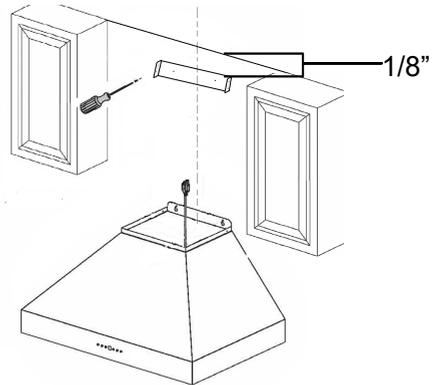

Figure 4.
5. Place chimney mounting bracket on the wall 1/8" from the ceiling or upper limit aligning the center with the vertical reference line. *Figure 4.*
6. Fix the Chimney mounting bracket using the mounting screws and drywall anchors. *Figure 4.*